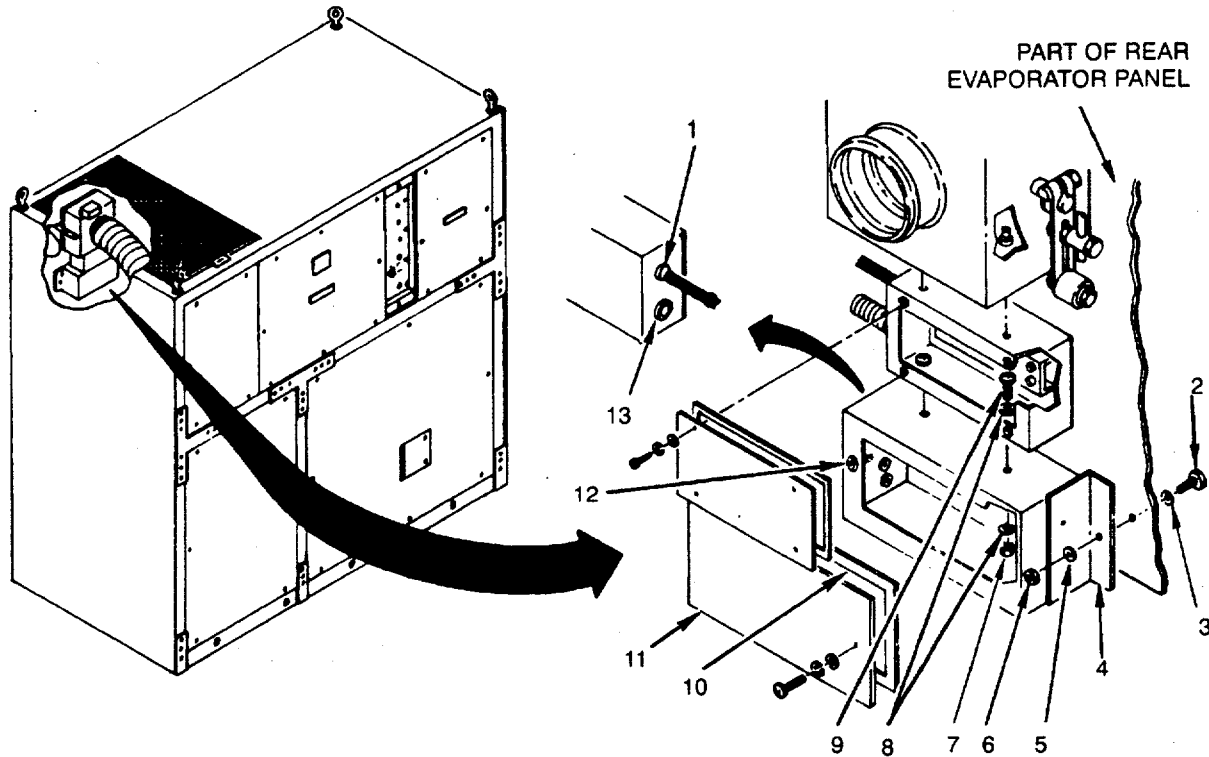

Figure 6-2. Thermostat Box And Cover
1. Check that box is not bent, cracked, or punctured. Replace box, if defective (see Figure 6-2).